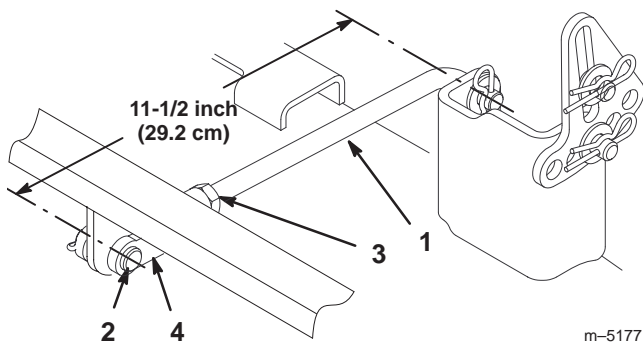

Figure 41
6. Measure the length of the rear trunnion rod (Fig. 41). If the rod length is not 11-1/2 inch (29.2 cm), remove the clevis pin and cotter pin from the end of the rod (Fig. 41), loosen the jam nut, and turn the yoke until the 11-1/2 inch (29.3 cm) dimension is obtained. Then secure the yoke with the clevis pin and cotter pin. Repeat this procedure on the opposite side of the mower.
12. When the front-to-rear blade slope is correct, tighten the jam nuts (Fig. 41 and 43).